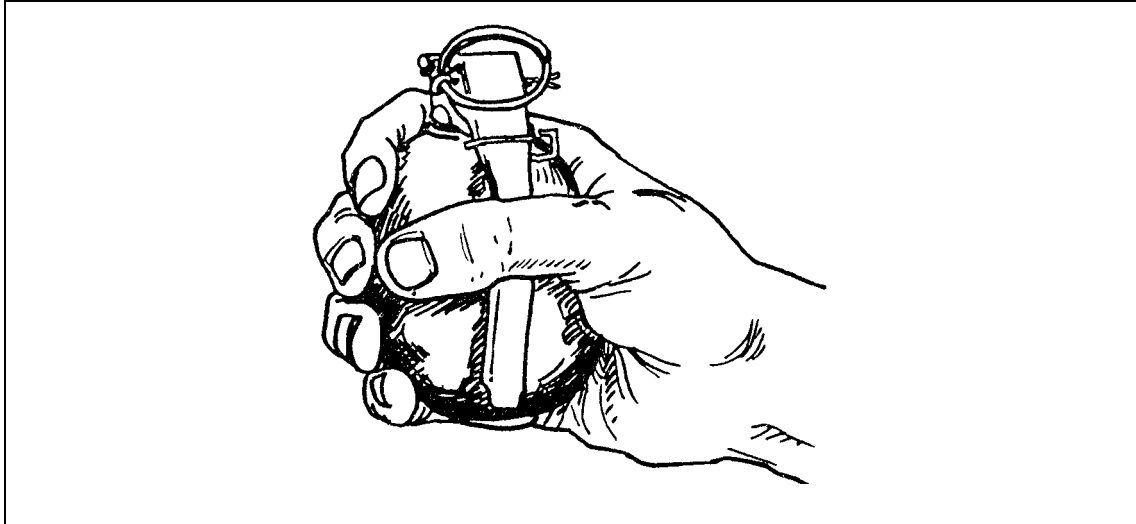

Figure 3-3. Right-handed grip.
- b. Right-handed soldiers hold the grenade upright with the pull ring away from the palm of the throwing hand so that the pull ring can be easily removed by the index or middle finger of the free hand (Figure 3-3).